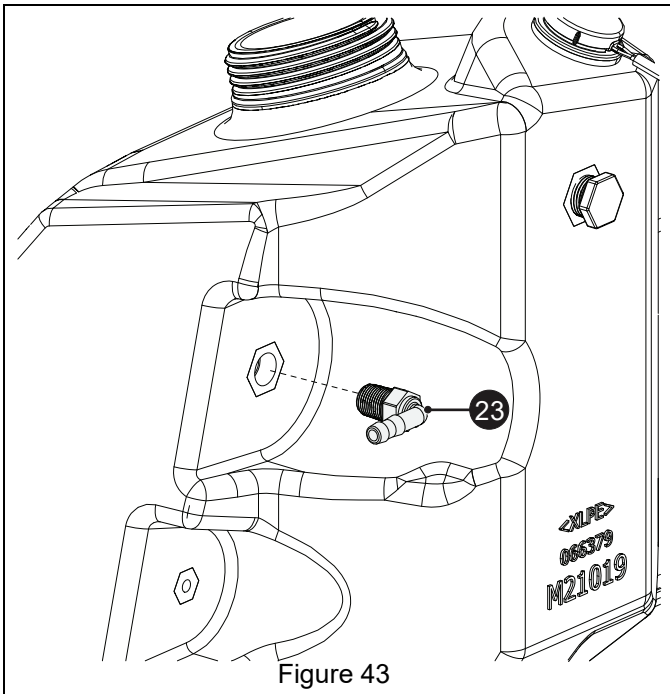

Figure 43
67. Wrap threads of one 3/8" x 3/8" 90-degree hose fitting (item 23) with teflon pipe tape and install in top front of rear brine tank. See Figure 43.